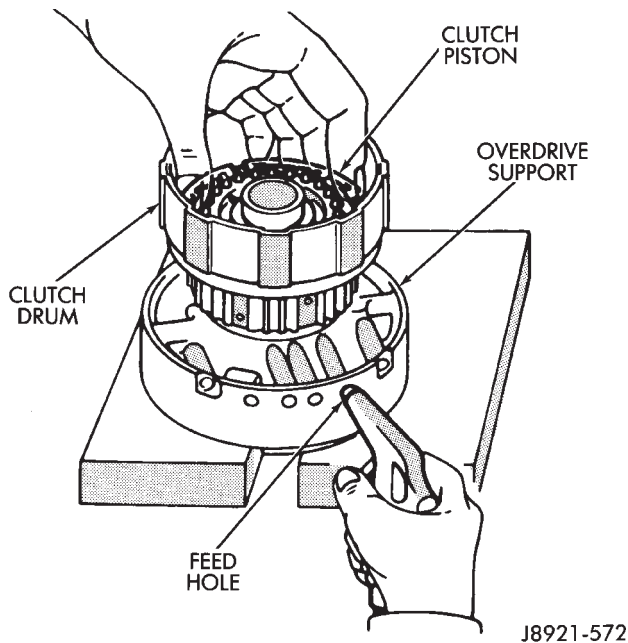

Fig. 6 Removing Forward Clutch Piston
(11) Remove spring compressor tool and piston return springs.
(12) Remount forward clutch drum on overdrive support (Fig. 6).
(13) Apply compressed air through feed hole in support to remove piston (Fig. 6). Use only enough air pressure to ease piston out of drum.